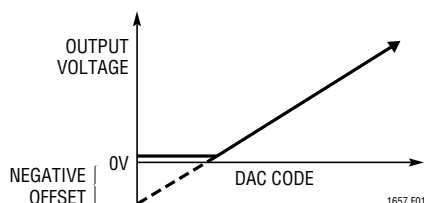

Figure 1. Effect of Negative Offset
**Voltage Offset Error ( $V_{OS}$ ):** Normally, the DAC offset is the voltage at the output when the DAC is loaded with all zeros. The DAC can have a true negative offset, but because the part is operated from a single supply, the output cannot go below zero. If the offset is negative, the output will remain near 0V resulting in the transfer curve shown in Figure 1.